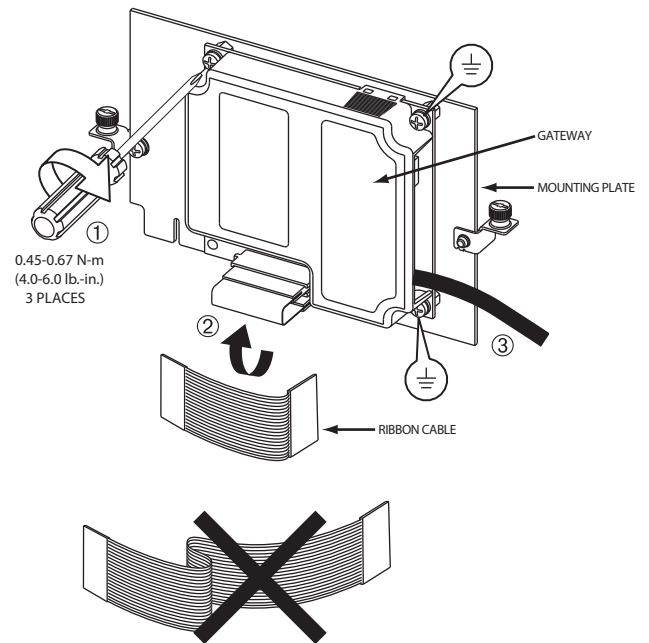

Fig. 26 — COMM Card
4. Remove the 2 screws securing the mounting plate and remove the mounting plate and COMM card. See Fig. 26.
6. Use the shorter ribbon cable to connect the plug on the COMM card to the connector on the mounting plate. See Fig. 26.